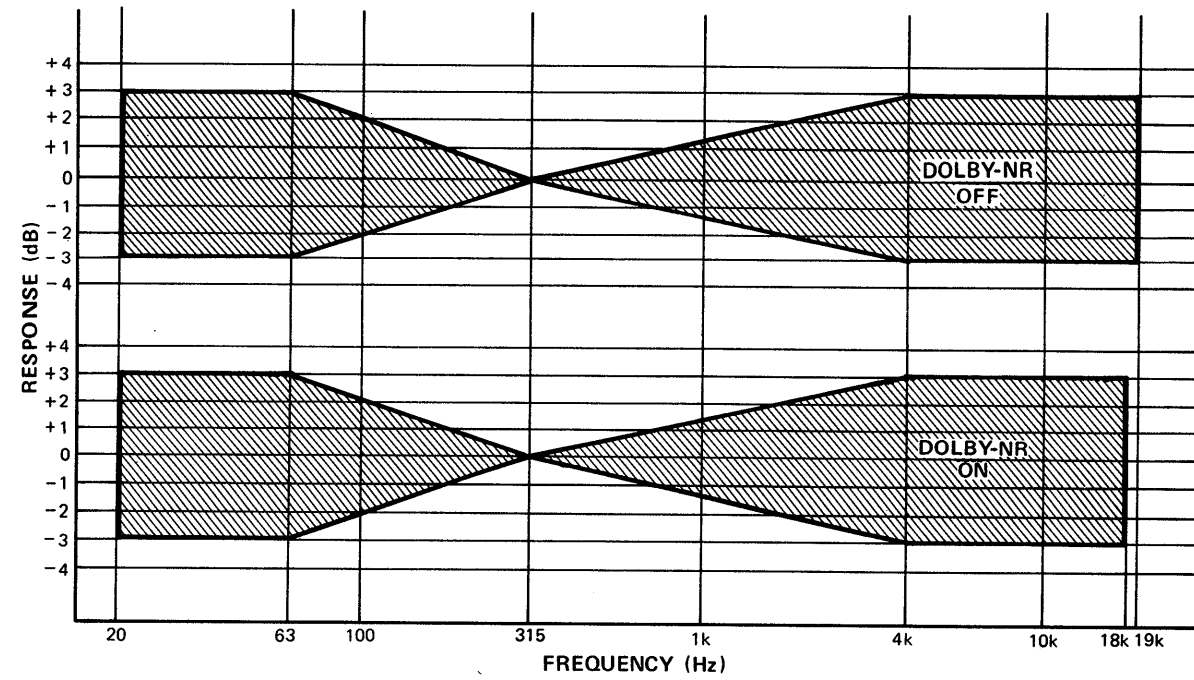

Fig. 5 - FeCr & CrO₂
17. If the above frequency response is not within the shaded DOLBY-NR OFF area of Fig. 5, adjust VR305 (left) and VR306 (right) slightly. Repeat steps 15 and 16 until playback frequency response on the V.T.V.M. 2 is adjusted within the DOLBY-NR OFF range as shown in Fig. 5.
18. Set Dolby NR switch to ON position and check if frequency response is within range of DOLBY-NR ON section of Fig. 5, if not repeat DOLBY-NR OFF procedures.
22. If the above frequency response is not within the shaded DOLBY-NR OFF area of Fig. 5, adjust VR307 (left) and VR308 (right) slightly. Repeat steps 20 and 21 until playback frequency response on the V.T.V.M. 2 is adjusted within the DOLBY-NR OFF range as shown in Fig. 5.
23. Set Dolby NR switch to ON position and check if frequency response is within range of DOLBY-NR ON section of Fig. 5, if not repeat DOLBY-NR OFF procedures.